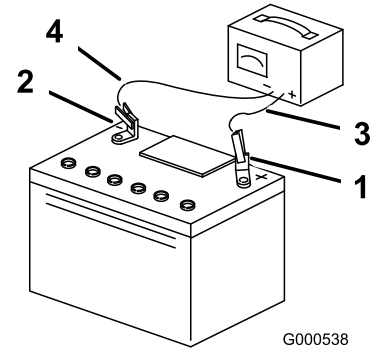

Figure 72
- When the battery is fully charged, unplug the charger from the electrical outlet, and disconnect the charger leads from the battery posts (Figure 72).